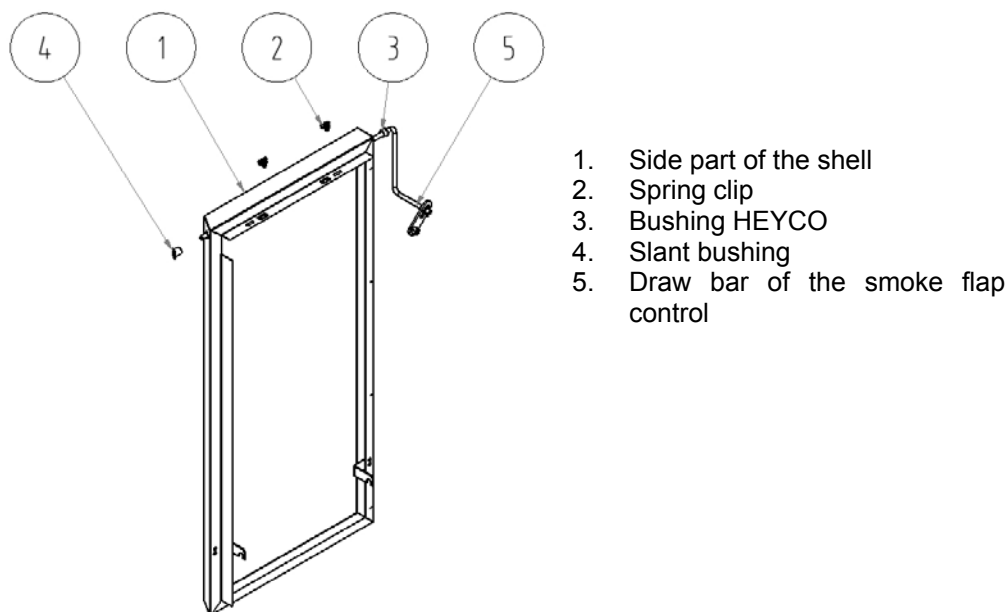

Fig.no.14 Left side part of the shell
4. Mount two spring clips (2) on the left side part of the shell (1), insert the bushings (3, 4), then insert the draw bar of smoke flap control (5) and the insulation (see Fig.no.14). Put the shell on the lower anchor bolts and connect the upper part with the lowered consoles by means of two screws M5 x12 and two washers 6,4 (see Fig. no. 16).